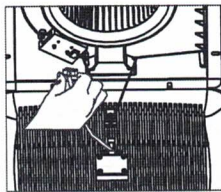

Figure 9.2
- ii) Lock Sensor(Option, if any) slot on adjustor panel. (Figure 9.2)